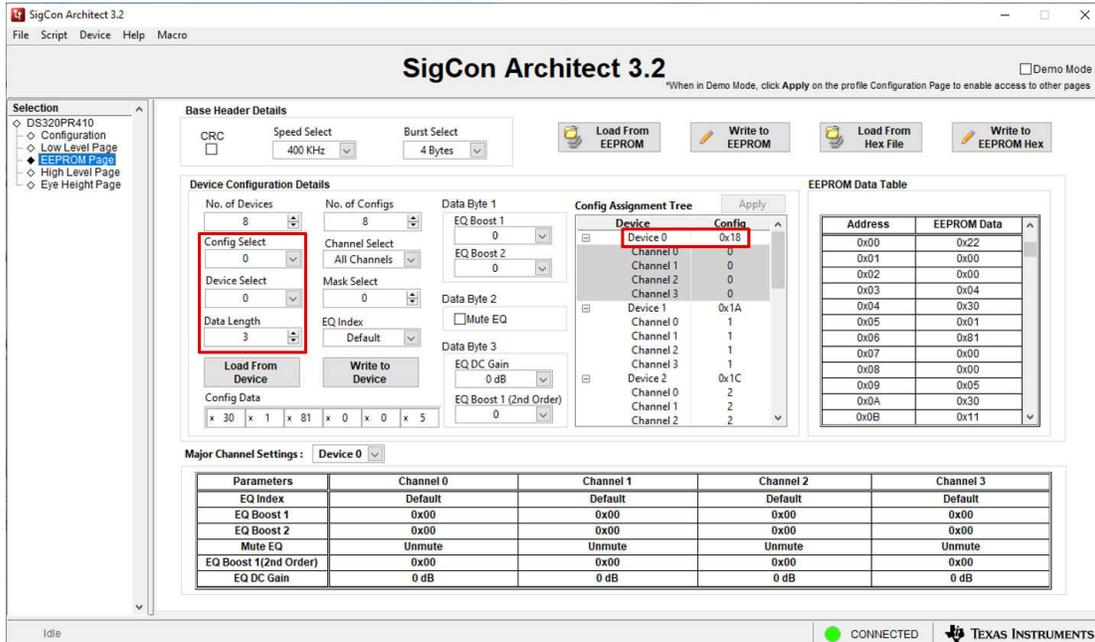

Figure 4-2. EEPROM Page: Config Select, Device Select, and Configuration Assignment Tree
- To program the first device, select Configuration 0 and Device 0 from the respective drop-down menus, *Config Select* and *Device Select*. Note the *Config Assignment Tree* shows the hex address of each device (0x18 for Device 0). Verify that the *Data Length* is set to 3, as 3 bytes of data are needed to program the DS320PR410. Each of these menus are shown in Figure 4-2.